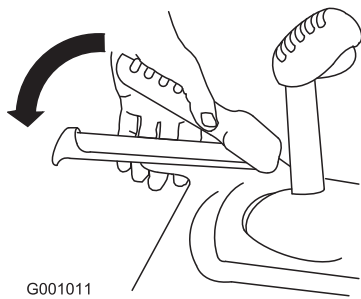

Figure 36
2. Engage the traction lever and hold it in place (Figure 36).